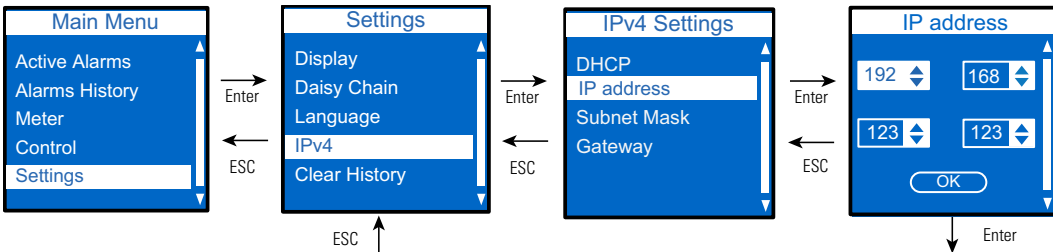

Figure 47. Set the Static IP Address
2. Set the static IP address (see Figure 47). Wait 10 seconds.